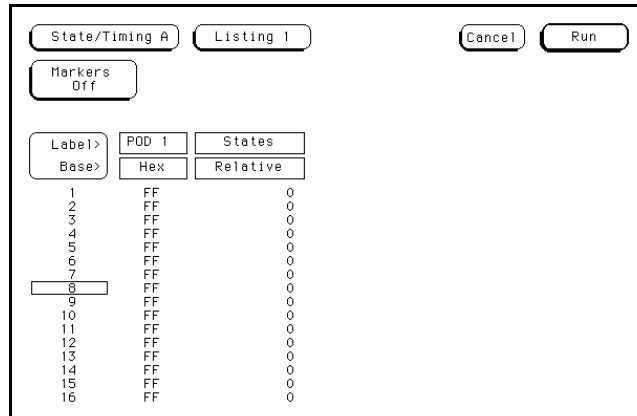

Figure 3-9. Listing Screen
6. Touch **Run**. The State Listing screen will be displayed and should show all F's for the channels under test. See figure 3-9.